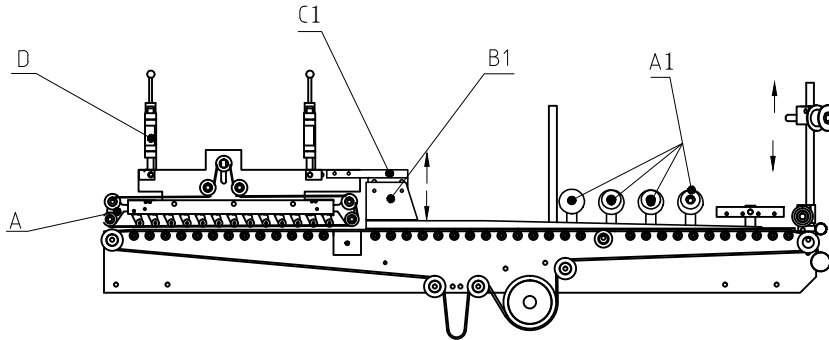

Fig 4-1
- ① The adjustment of base and upward clamping subassembly is the same with the pre-folding unit. Forming knife subassembly, reverse folding subassembly and other auxiliary subassemblies are retained by clamping screw. Loosen all the clamping screws to adjust the desired position of each part, refer to Fig 4-1.